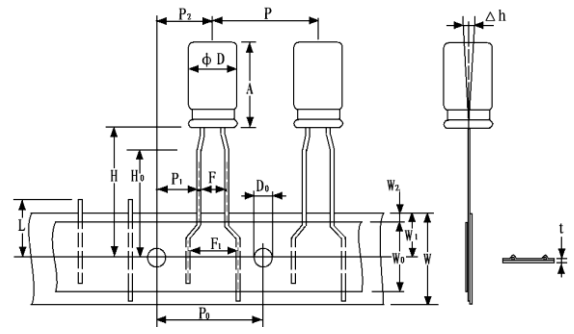
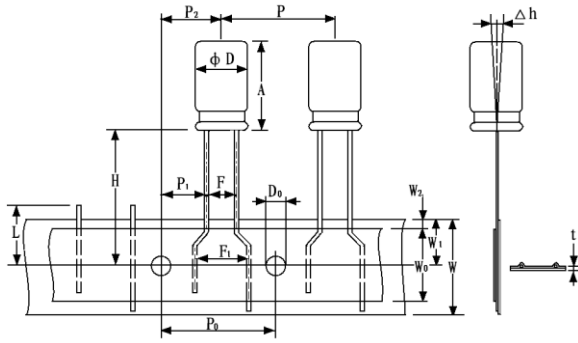

Fig2
Fig3
-0.2	Fig 2: $\Phi 5$ Fig 3: $\Phi 6.3$